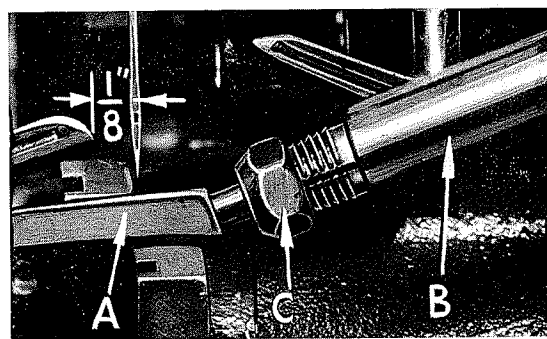

Fig. 5
At this point, insert lower looper (A, Fig. 5) into bar (B). With lower looper at left end of its stroke, set looper point  $\frac{1}{8}$  inch from center of needle (Fig. 5), using looper gauge No. 21225-1/8. Do not have lower looper deflecting needle. Tighten nut (C).